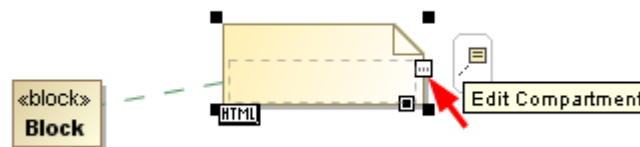

Figure 51 -- Edit Compartment Manipulator Button
- Click **Edit compartment** of anchored Note using the smart manipulator button on **Note** (Figure 51) or